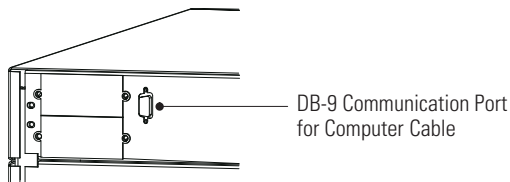

Figure 51. Communication Port
4. If you are installing power management software, connect your computer to the UPS communication port (shown in Figure 51) using the supplied communication cable.